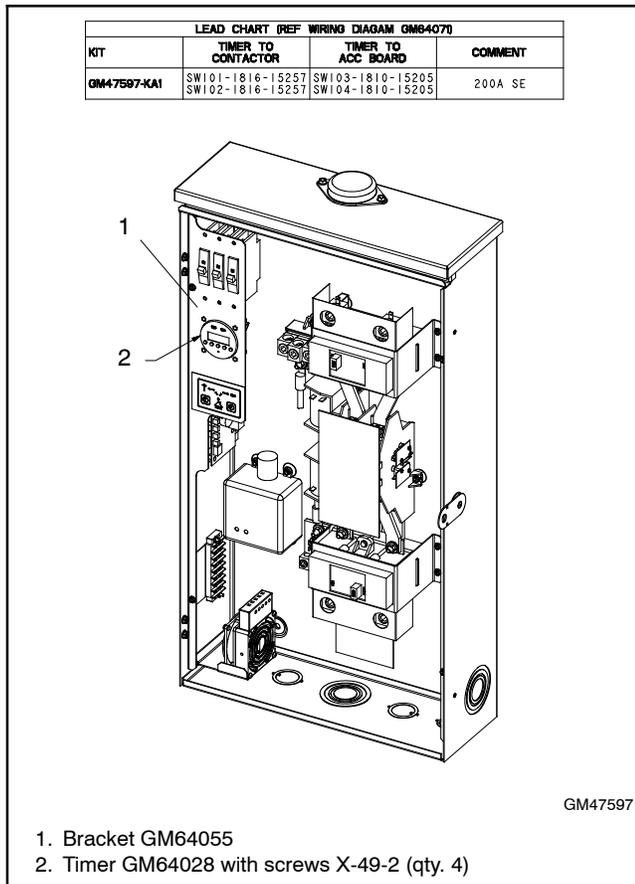

Figure 4 Mounting, 400 Amp Model RDT or 200 Amp and 400 Amp Service Entrance Rated Model RDT
See Figure 4.
1. Replace the existing mounting bracket with bracket GM64055 provided with the kit. See Figure 4.